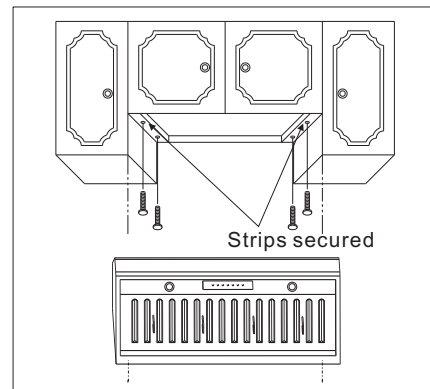

Fig.7
- c. Position the strips on the cabinet bottom and screw the strips securely to the cabinet (Fig.7)
- a. The six keyhole mounting slots for the hood. Mark these onto the bottom of the cabinet; or, if the cabinet bottom is recessed. Onto the wood strips (Fig.7)
C. Screw the four 1" wood screws (for mounting the hood) into the exact center of the arrow and into the keyhole mounting slots marked on the cabinet bottom (for flush installations), or marked on the 1"x2" wood strips (for recessed cabinet installation) (Fig.7) Do not turn the mounting screws in all the way. Allow 3/8" of screw to project, so the hood can be fitted place. (The screws will be tightened later)